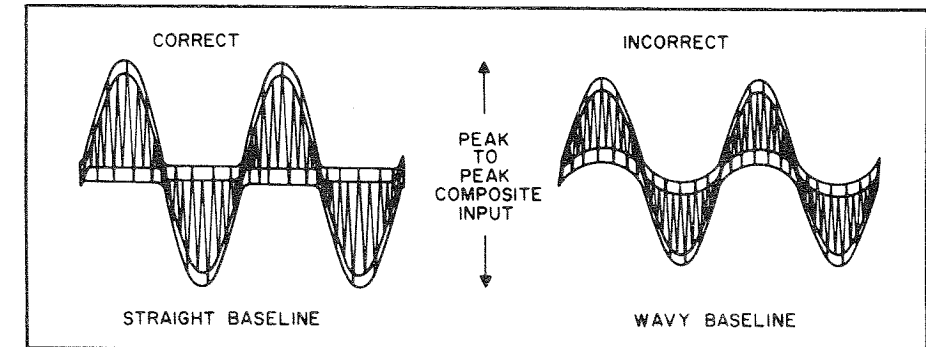

Figure 10. Composite Input To Multiplex Decoder.
- (1) Disconnect the jumper lead going to pin 4A (on AM/FM IF, MPX board) and connect the output of the multiplex generator through a 15k resistor to pin 4A.
- (2) Connect DC VTVM to Test Point 403 (on AM/FM IF, MPX board). Connect the vertical input of the scope to pin 4A.
- (3) Set MPX generator for 19 kHz pilot carrier output only. Adjust pilot level for approximately 120 mV peak-to-peak input at pin 4A.
- (4) Adjust cores of Z401 and Z402 (on AM/FM IF, MPX board) for maximum reading on DC VTVM (2.5 to 4 VDC).
- (5) Connect output of audio generator, set for 1 kHz, to the external modulation input of MPX generator and to the external sync input of an oscilloscope. Adjust audio generator level for 1.2 volts peak-to-peak composite MPX input (10% pilot, 90% audio). See Figure 10. Modulate right channel only. Proceed with steps (5) through (10) of PREFERRED ALIGNMENT PROCEDURE.
- (6) Reconnect the jumper lead going to pin 4A (on AM/FM IF, MPX board) removed previously.